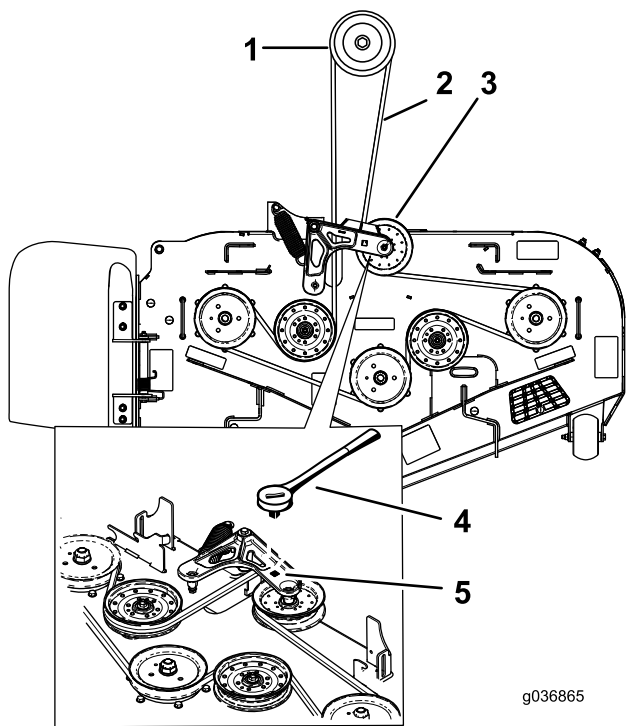

Figure 94
5. Remove the spring tension from the spring-loaded idler pulley. Refer to Figure 93 or Figure 94.
Note: For 2500 Series mower decks, use a ratchet in the square hole in the idler arm to remove tension on the idler spring (Figure 94).
7. Install the new belt around the mower pulleys and the clutch pulley under the engine (Figure 92 or Figure 94).
8. Install the idler spring (Figure 92 or Figure 94).